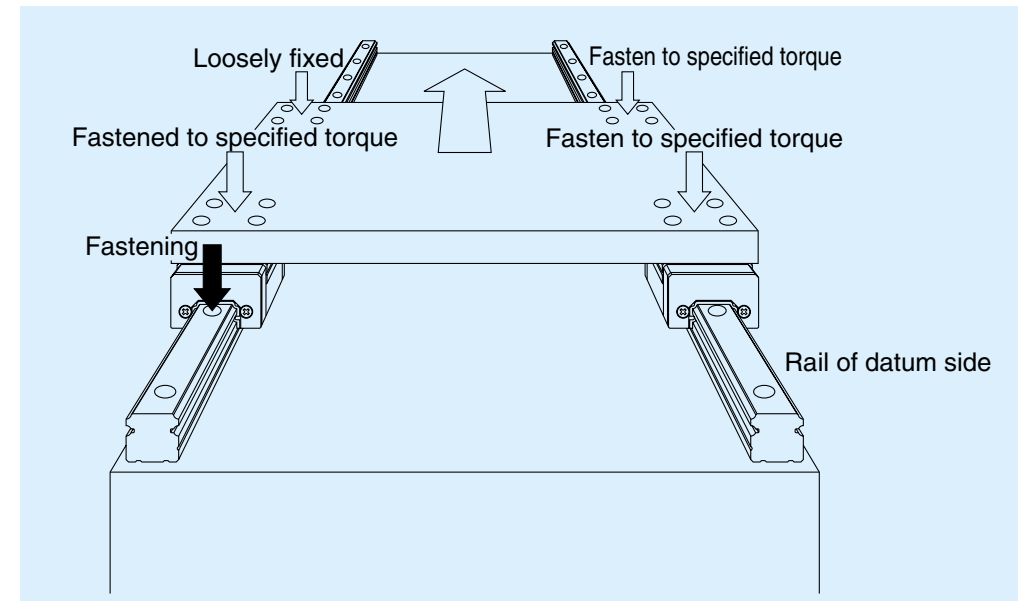

Fig. II-9-18 Easy installation
- ① Carefully place the reference side rail on the bed. Then tighten the bolts for installation with specified torque.
- ② Temporarily tighten the bolts on the adjusting side rail.
- ③ Tighten the ball slides on the reference side rail and one ball slide on the adjustment side rail with specified torque. Leave the rest of the ball slide on the adjusting side rail temporarily tightened (Fig. II-9-18).
- ④ While moving the table with each pitch of the bolt for rail: With specified torque, tighten the rail mounting bolt which is located immediately adjacent to the ball slide on the adjusting side rail that had been finally tightened. Take this procedure from one end to the other.
- ⑤ Return the table to the original position once. Then with standard torque, tighten the rest of the ball slides on the adjusting side. Then, by the same procedure as in ④, tighten the rest of the rail mounting bolts with standard torque. Move the table to check any abnormality such as large friction force.